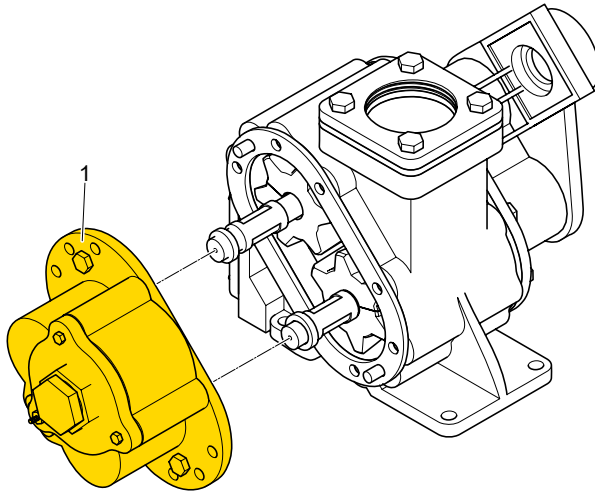
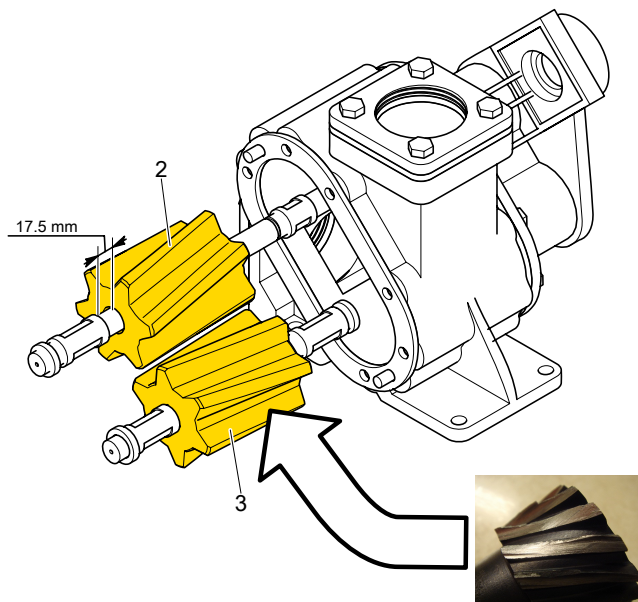
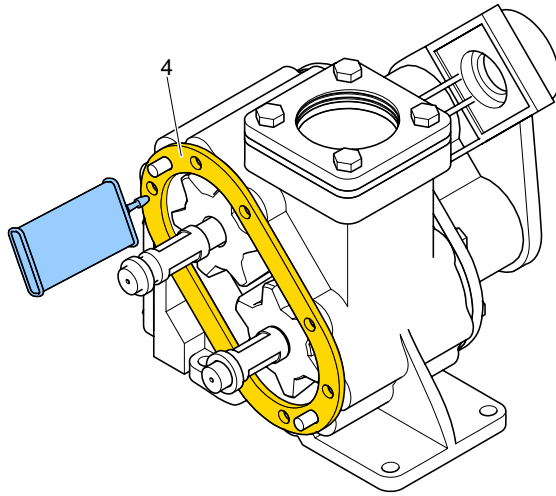

Figure 1: Pump Valve Housing
Figure 2: Rotors
Figure 3: Gasket
1. Remove the Pump Valve Housing [\[1\]](#) using number wrench 15 mm. (Fig. 1)
2. Remove the Pump Valve Housing (Fig. 1 [\[1\]](#)) and inspect the Rotors [\[2\]](#), [\[3\]](#) for cracks and fouling. Replace as appropriate using Maintenance Procedure JC0346. (Fig. 2)
3. Prior to re-installation of the Pump Valve Housing (Fig. 1 [1]), ensure the gasket is resealed with the correct gasket [4] sealant. (Fig. 3)